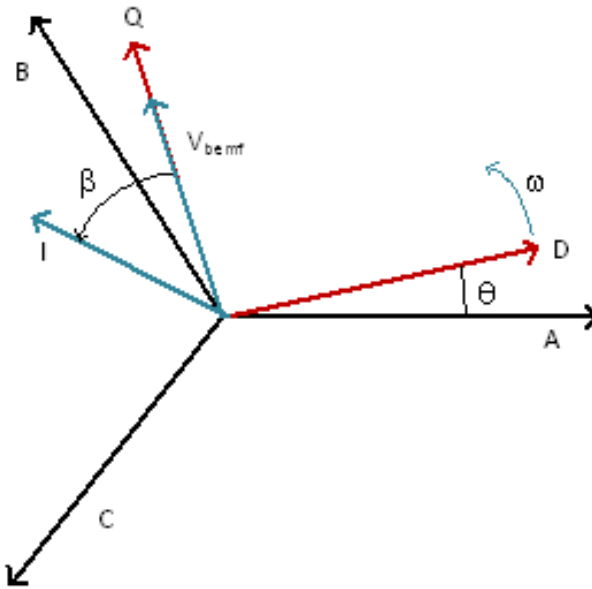

Figure 3. Park Transform with angle definitions for θ and β
One may notice the absence of the 3/2 factor in (7), which is usually present in the PMSM torque equation when using non-orthonormal transforms. This is, again, because this model uses the orthonormal D-Q transform. Figure 3 explains the principle of the Park transform. Considering fixed ABC referential with all quantities (V_{bemf} , motor current I) rotating at the electric frequency, if we observe these quantities in a D-Q frame turning at the same speed we can see that the motor quantities will be constant.
This is easy to see for the Back-EMF voltage V_{bemf} that directly follows the Q-axis (because the magnet flux is on the D-axis by definition). In Figure 3, I leads the Q-axis by an angle called β (beta). The modulus of the vector I is called I_{amp} . In the figure below, θ is the rotor angle, aligned with the D-axis.